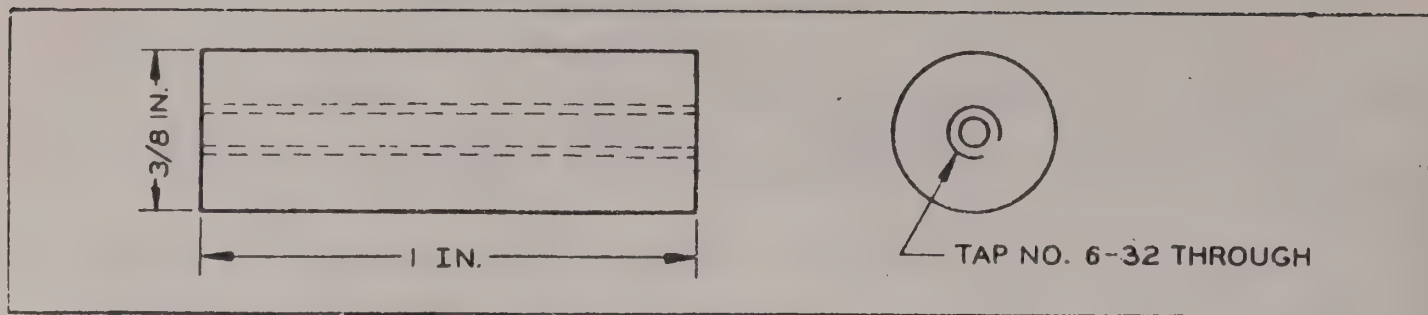

Figure 3-18 Slug Puller Fabrication Details.
(1) Slug Puller. See Figure 3-18